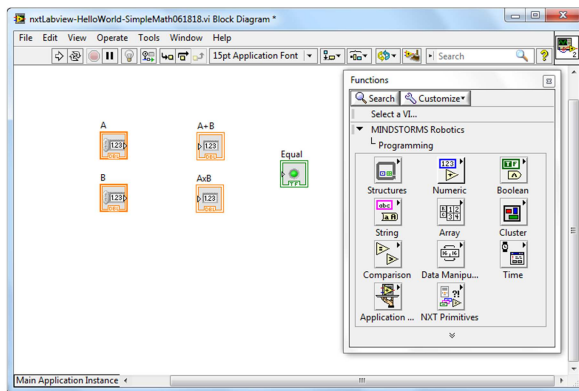
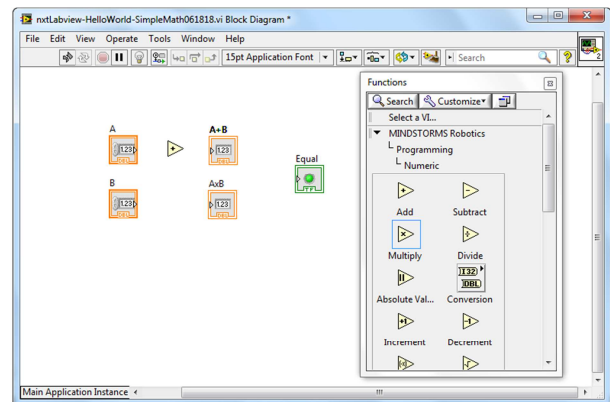
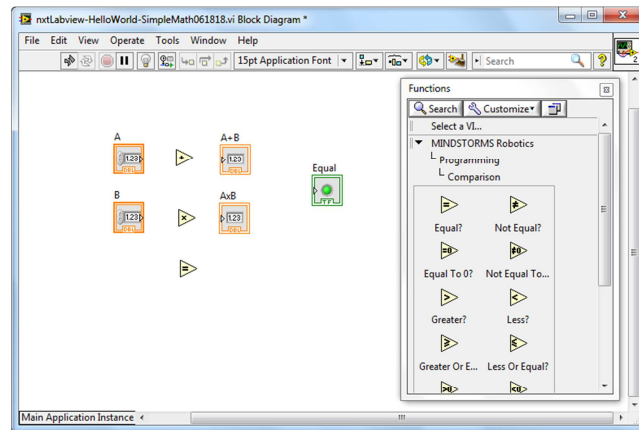

Figure 1L: Programming categories reveal components like Structure and Numeric
Figure 1M: Numeric categories show functions like Add and Subtract
Figure 1N: Under the Programming category, select Comparison. Find the “Equal” function and click-and-drag to the block diagram.
Click Programming reveals sub-categories like Structures, Numeric, and Boolean (**Figure 1L**). Click Numeric reveals functions like Add, Subtract and Multiply (**Figure 1M**).
Figure 1M shows that an "Add" function already dragged between the numeric control (A) and numeric indicator (A+B). Select the "Multiply" function so that your block diagram looks like **Figure 1N**. During run-time, when the two values in the numeric controls are equal, the round LED will glow. Thus, under "Comparison" select the "Equal" function and drag into your block diagram (**Figure 1N**).